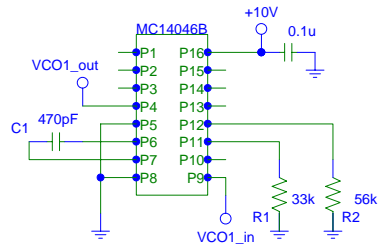
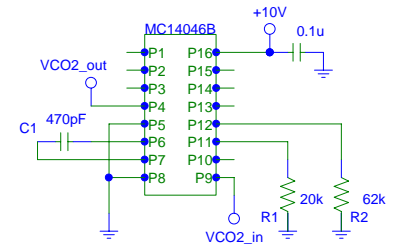

Fig. 2 VCO1 test circuit.
Fig. 3 VCO2 test circuit.
3. Using the formulas in page 4 of the MC14046B data sheet, calculate  $f_{min}$  and  $f_{max}$  with the component values of  $R_1$ ,  $R_2$  and  $C_1$  of Fig. 2 [2 points] and Fig. 3 [2 points]. You might need to use these formulas during the lab. Pay attention to the note beside the formulas.
1. Assemble the circuit of Fig. 2. The  $0.1 \mu\text{F}$  capacitor is for decoupling of the power supply and should be connected from pin 16 to pin 8 right on top of the integrated circuit.
5. The interval  $[f_{1_{min}}, f_{1_{max}}]$  is the range of frequencies that the VCO1 can output. Keeping the circuit assembled, assemble the circuit of Fig. 3 using a second MC14046B. This is another VCO circuit which will be part of the demodulator and its frequency range is determined next.